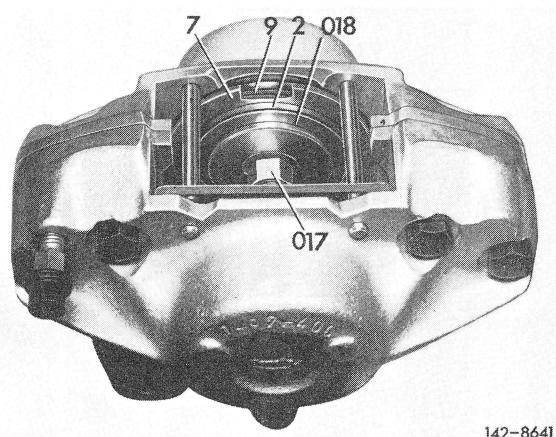

Fig. 20
15 On Bendix (Bx)-caliper, insert heat shield (7) into piston in such a manner that recess in shield fits accurately into elevation of piston (Fig. 20).
16 Place plate (018) on piston, then insert device (017) into caliper and press heat shield (7) into piston (Fig. 20).